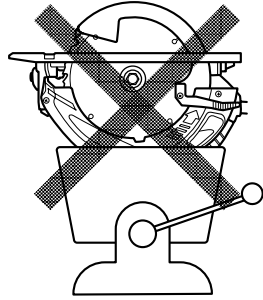

Fig. 7
- 23. Never attempt to saw with the circular saw held upside down in a vise.** This is extremely dangerous and can lead to serious accidents. (Fig. 7)